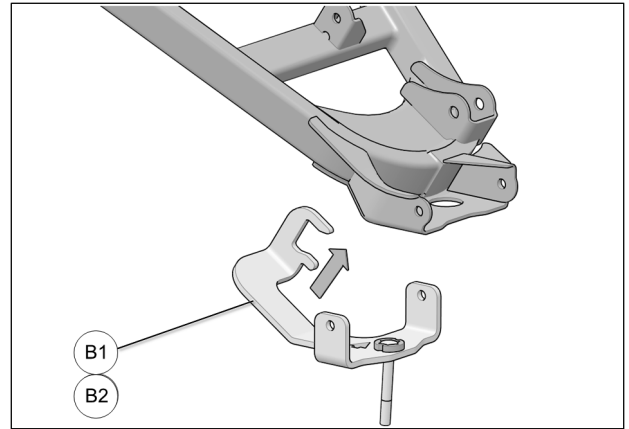

Fig. 7
6. Position anchor bracket under lower rear suspension arm (B1-B2). See Fig. 7